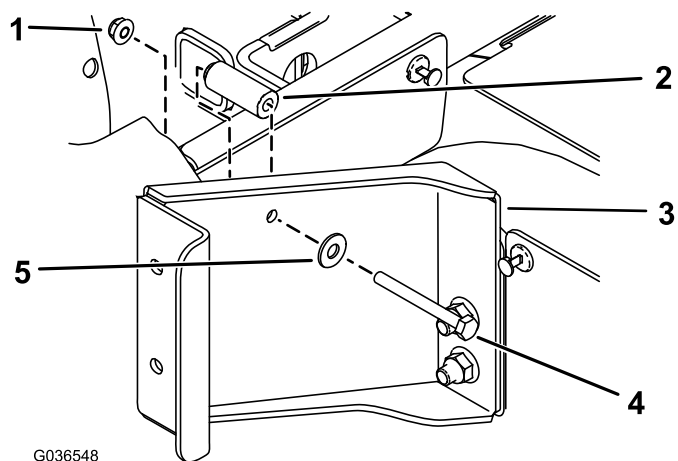

Figure 2
- C. Secure the bracket behind the rear seat base using 1 hex-head bolt (1/4 x 2-1/2 inches), 1 flat washer (5/16 inch), 1 spacer (9/32 x 5/8 inch), and 1 flange nut (1/4 inch) as shown in Figure 2.